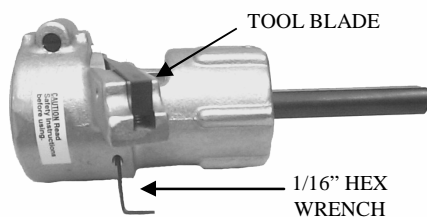

Fig. 5
**Step 5.** (Fig. 5) Before stripping the insulation, adjust the blade edge to 1/64"(.39mm)-1/32"(.79mm) above the conductor surface by inserting the provided hex wrench through the hole located beneath the tool blade.